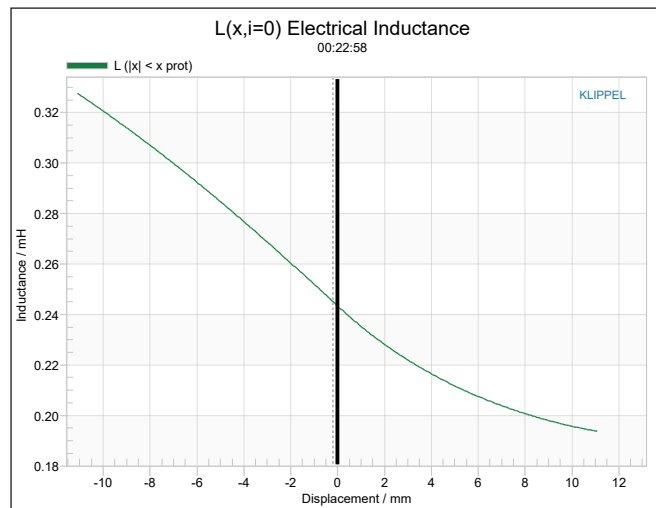

Figure 9: Klippel Analyzer L(X) curve for the Scan-Speak Ellipticor 38WE/8582T00 woofer
**Figure 9** gives the inductance curves Le(X) for the 38WE/8582T00. Inductance will typically increase in the rear direction from the zero rest position as the voice coil covers more pole area, which is what you see here. However, because of the effective use of copper shorting rings (Faraday shields) in the Scan-Speak SD AirCirc motor, the inductive swing from Xmax in to Xmax out is a very small 0.13mH, which is very good inductive performance.